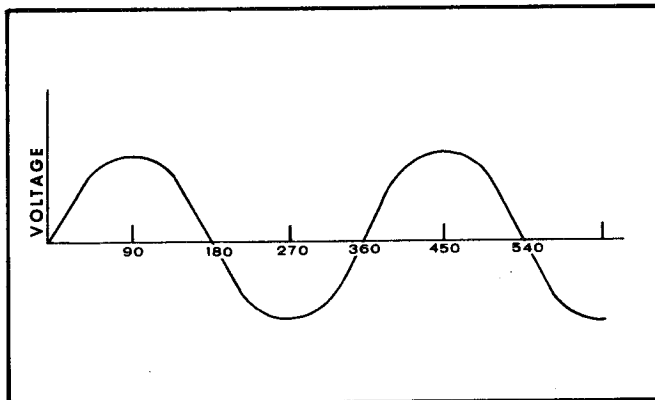

FIGURE 3-2. WAVE FORM OF ALTERNATING CURRENT
A simple generator (Figure 3-1) consists of a coil rotated in a magnetic field. This coil produces a voltage (Figure 3-2) when rotated and the slip rings remove this voltage to an external circuit. Each segment of the voltage curve corresponds to a position of the coil in the magnetic field. The highest voltage occurs when the sides of the coil move at right angles to the magnetic flux. The zero voltage occurs when moving parallel to the flux. The voltage reverses direction four times for a four pole generator (twice for a two pole) for each revolution. This is alternating current (AC) and it has a frequency equal to the number of complete cycles it makes each second.